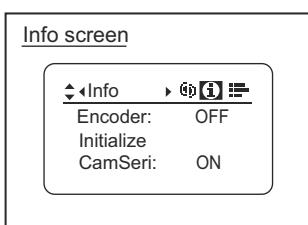

Fig1-9
7. Info screen (See Fig. 1-9 below)